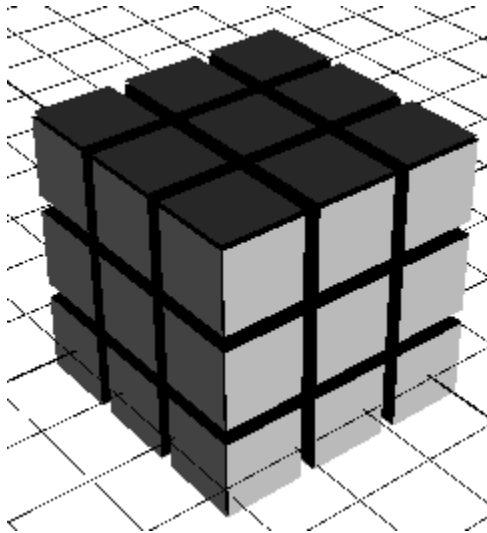

Figure L4.6 – Rubik's Cube
9. Your finished Rubik's cube should look similar to Figure L4.6.